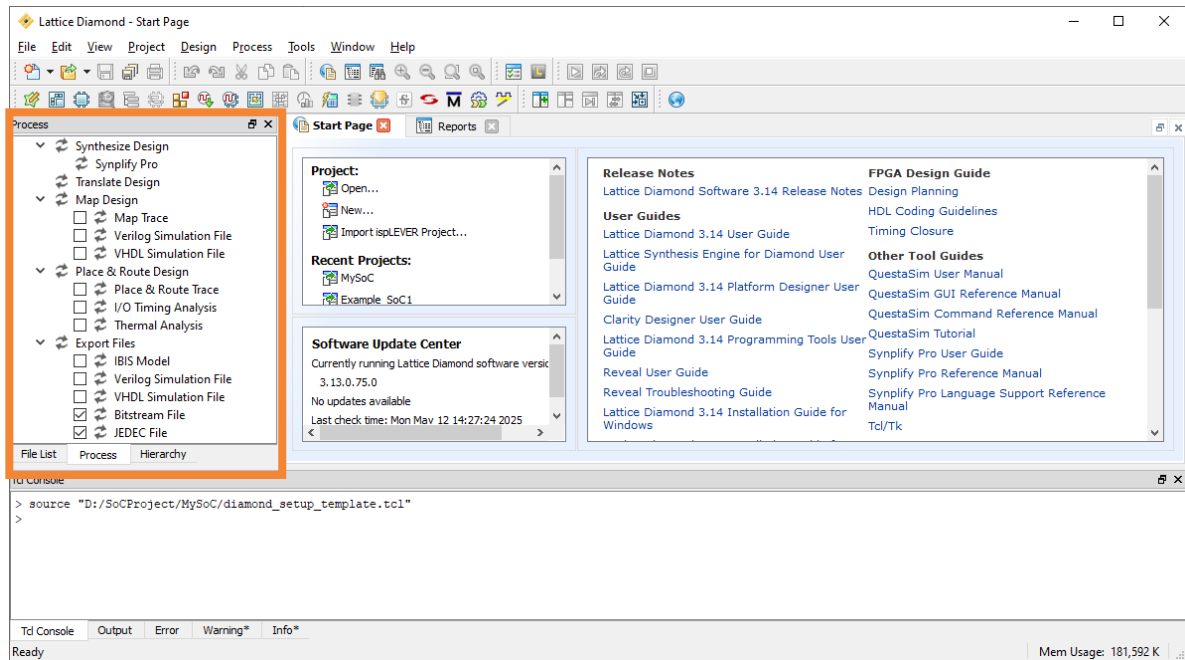

Figure 6.14. Generating the Programming File
2. Switch to the **Process** view of the Lattice Diamond project and make sure Bitstream File or JEDEC File is checked in the **Export Files** section (Figure 6.14) .